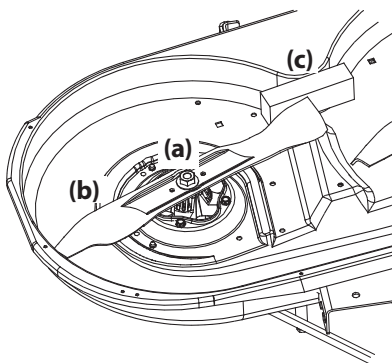

Figure 4-17
2. Use a 15/16" wrench to hold the hex nut on top of the spindle assembly when loosening the hex nut (a) securing the blade (b). A block of wood (c) may be placed between the deck housing and the cutting edge of the blade (b) to help in breaking loose the hex nut (a) securing the blade. See Figure 4-17.